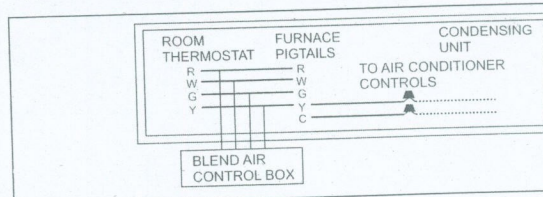

FIGURE 20: Wiring for Blend Air Accessory
- Connect thermostat wires to the furnace when installing blower accessory as shown in Figure 20.